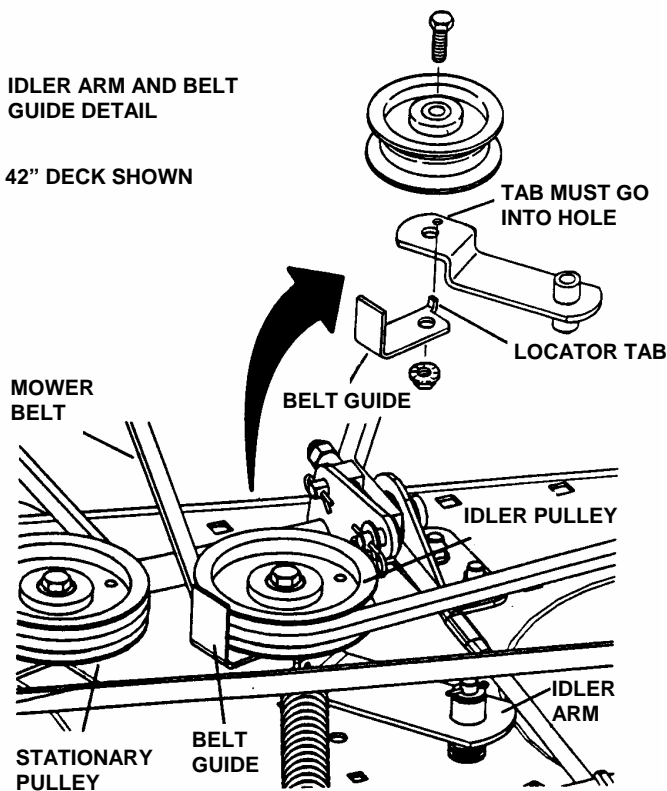

FIGURE 4.3
5. Reinstall idler pulley spring. See Figure 4.3. NOTE: The idler belt guide should be positioned so the locator tab fits into the corresponding hole found on the idler arm. See Figure 4.3. Tighten bolt securely.